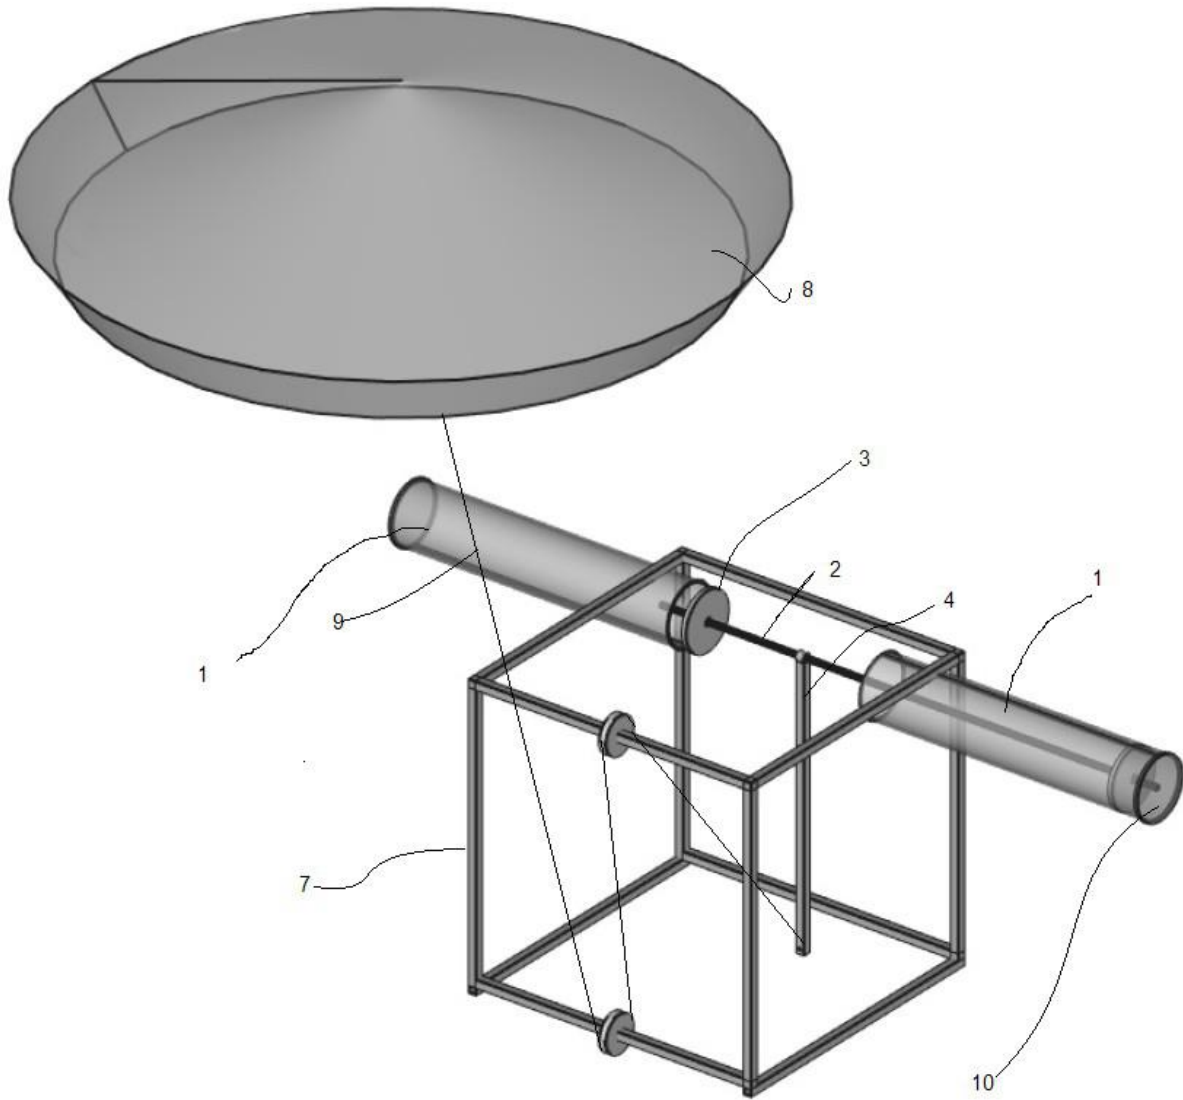

Fig. 1
Presented technique of purifying or desalinating water is based on reverse osmosis technique. In this technique, water is forced to flow from semipermeable membranes using pressure. This apparatus consists of pipe (1), which contains water to be purified, screw (2) with head (3), which opposes the water flow in reverse direction of screw movement when pressurized. A ratchet or a disc (4), which allows rotations in one direction freely and opposes in other direction. A single flap (5) or propeller (6) or buoy (8) with rope (9) and a frame (7) to hold them as shown in the Fig 1. Either buoy or propeller or flap or any combination of them can be used to operate the assembly to purify the water. Different kind of semi permeable membranes (10) are used to filter out the impurities from the water, which are attached to the pipe (1) in different ways. The screw can be rotated by human muscle power or it can be rotated using force, which is imparted by wave on either a flap or propeller or buoy. When wave hits the propeller or buoy or flap, the wave energy is converted into rotational energy. This rotational energy is transferred to the screw using attached ratchet, which turns the screw in only one direction. For every consecutive wave hitting the assembly, the screw is rotated partially in one direction. When screw keeps rotating, it creates pressure on the water, which is inside it. The pressure helps to perform the reverse osmosis on water, where impure water is forced to go through the semipermeable membranes. At this time, only pure water is allowed to pass through the membranes and the impurities are trapped inside the membrane and back of the membrane. Which can be discarded (4) when the screw movement is completed till the specified length of pipe. That movement is then reversed and the other end of the screw again starts operating on the other side of the pipe in the assembly as shown in the Fig 1. A flywheel (11) and or gearbox (12) can be used to smoothly and continuously transfer the power to screw for rotation. The usage of flywheel improves the efficiency and performance of the system and can produce more water in available energy supply.